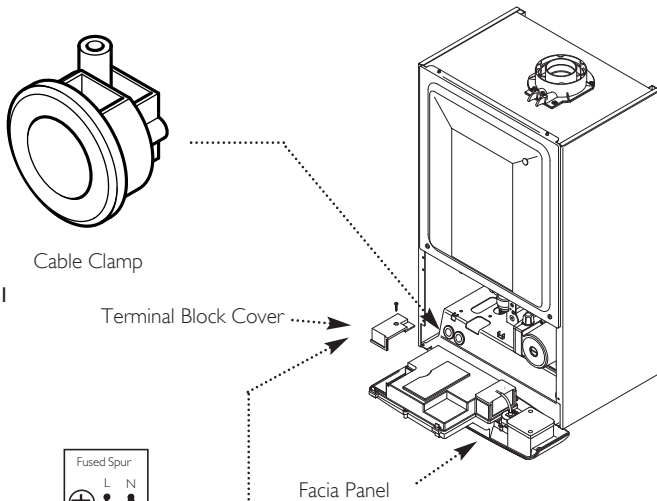

Fig. 31
- Slacken the unused cable clamp on the LH side of the boiler chassis (Fig. 31). Insert the external control wiring through the clamp and route it to the terminal block.